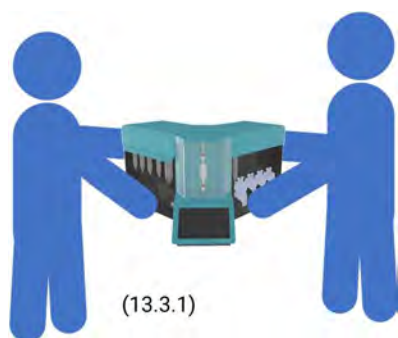

Figure 14.3.1: Transport mode of X-TRACKER® without packaging;
2. Lift the machine vertically with an operator on either side (Figure 14.3.1);
4. Lift the unit vertically with an operator on either side (Figure 14.3.1);